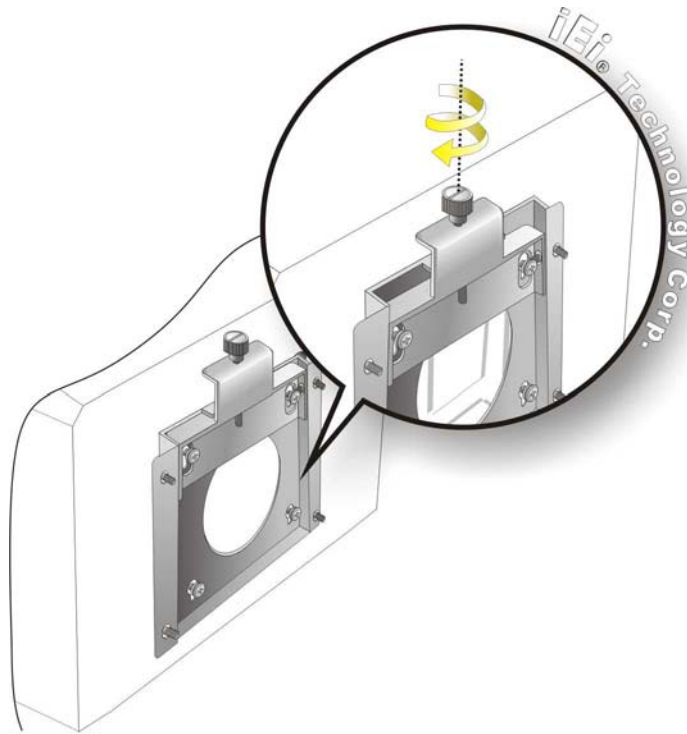

Figure 3-27: Secure the Panel PC
- Step 9:** Secure the panel PC by fastening the retention screw of the wall-mounting bracket. (Figure 3-27).